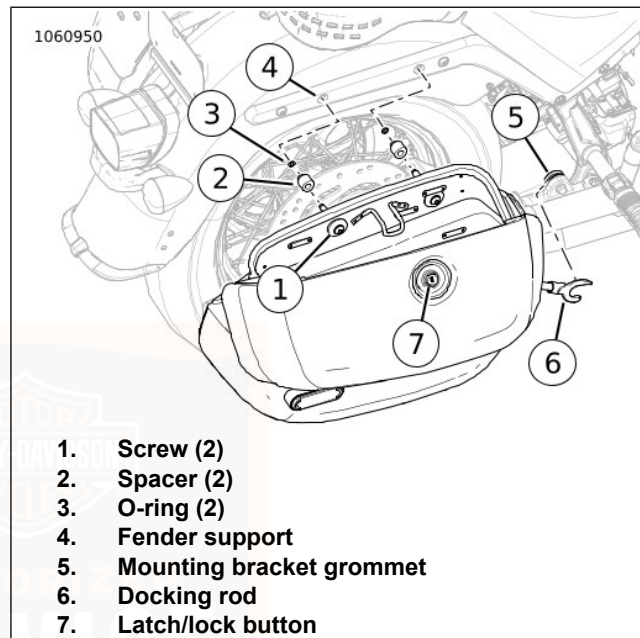

Figure 46. Saddlebag Assembly
1. See Figure 46. Unlock saddlebag.
- a. Insert key into latch button (7) and rotate one-half turn counterclockwise.
3. See Figure 46. Lock saddlebag.
- a. Insert key into latch button (7) and rotate one-half turn clockwise.
1. See Figure 46. Open saddlebags.
2. Use one hand to support the saddlebag and another hand to remove the saddlebag mounting screws (1).
1. See Figure 46. Verify spacers (2), O-rings (3), and grommets (5) are in place and in good condition.